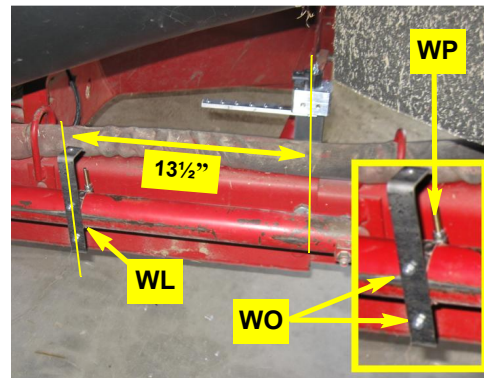

Figure 2c: WAS rod link mounting bracket installed
- c. With the machine's wheels set straight ahead, use hardware **WO** with clamp **WP** (its flanges rearward - Figure 2c inset) to mount rod link bracket **WL** at the back of the tie rod. Mount **WL** with its short arm upward and pointing forward and its center line 13½" from **WK**'s bracket center line (Figure 2c).
- c. With the machine's wheels in the straight ahead position, use hose clamps **WR** to mount rod link bracket **WN** on the tie rod. Mount **WN** with its long arm upward and inward. Set **WN** with its right (outer) edge 10" from the center line of bracket **WM** (Figure 2c with inset - you will install the rod link in the next step and connect the ECU's WAS cable in the ECU installation section).
Figure 2c with inset: WAS rod link mounting bracket installed